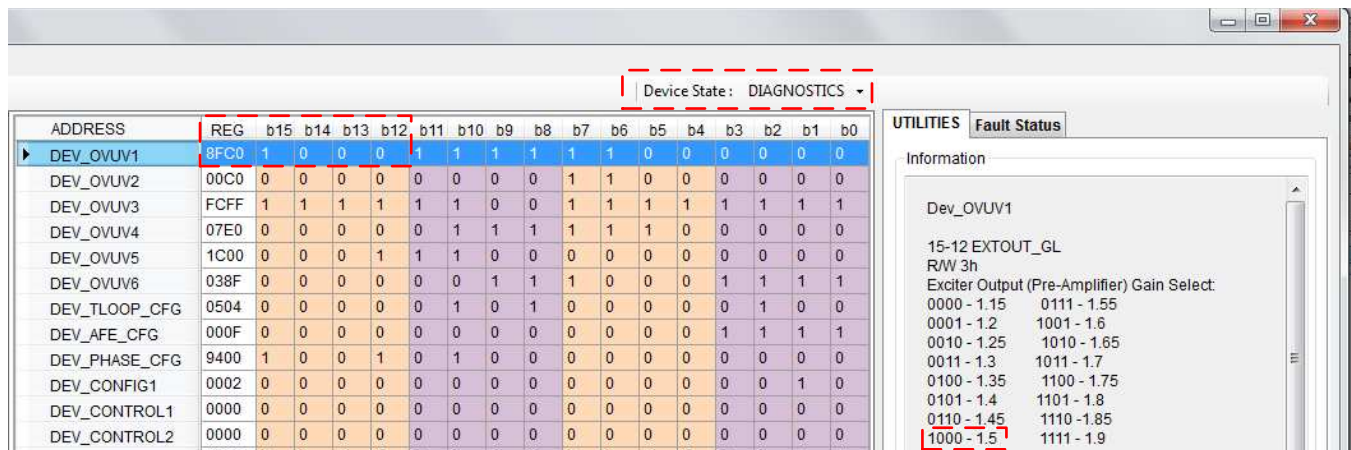

Figure 19. DEV_OVUV Register Bits Relevant to Exciter Amplifier Gain
- Step 2. Change the state of the device to DIAGNOSTICS mode. Refer to Figure 19 and Section 2.3.2.
- Step 5. Click on the DEV_OVUV1 address inside the register map as shown in Figure 19. Text should appear in the *Information* box on the *UTILITIES* tab. This box displays information regarding the bits in the DEV_OVUV1 address.